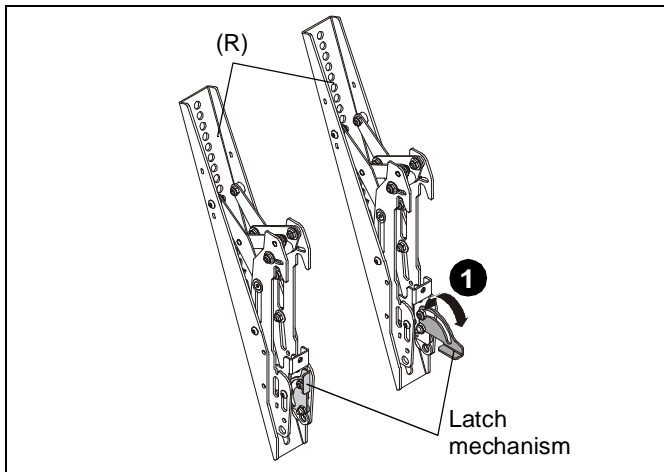

Figure 19
- Lower the latch mechanism on each interface bracket (R). (See Figure 19)
1. Ensure that the latch mechanisms on interface brackets (R) are already lowered. (See Figure 19)